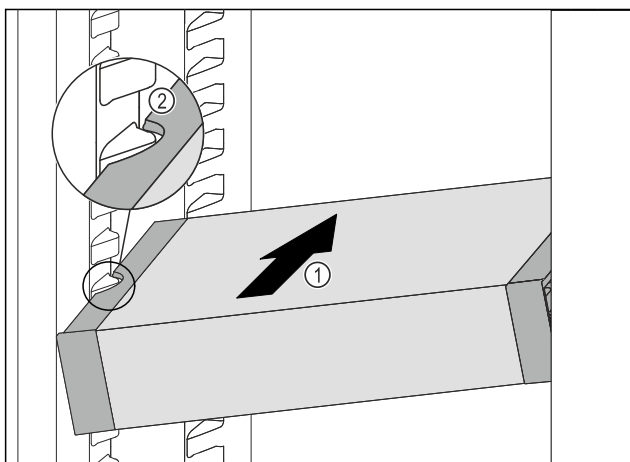

Fig. 63
- ▶ Insert the VarioSafe into the refrigerator compartment at an angle *Fig. 63 (1)* until the recesses in the side *Fig. 63 (2)* of the VarioSafe are at the level of the support rib in the refrigerator compartment.